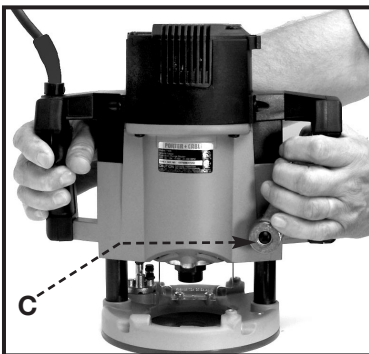
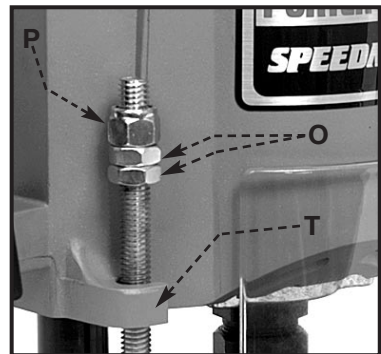

Fig. 4
Fig. 8
2. Release the plunge mechanism by pulling the locking lever (C) Fig. 4 to the left, and lower the plunge mechanism until the router bit touches the work surface. Release the lever and push it to the right to lock the mechanism in position.
6. To limit the upward travel of the plunge mechanism: (1) release the plunge lock by moving the plunge locking lever (C) Fig. 4 to the left, and move the motor to the desired maximum height; (2) release and push the locking lever to the right to secure the motor in this position; (3) use two 9/16" open-end wrenches (not furnished) to move the travel-limiting nuts (O) Fig. 8 against the top of the motor housing boss (T) Fig. 8. "Jam" the nuts together to lock.
**DO NOT** attempt to increase plunge travel by readjusting the stop nut (P) Fig. 8. Increasing the travel beyond 3" can cause mechanism to jam.